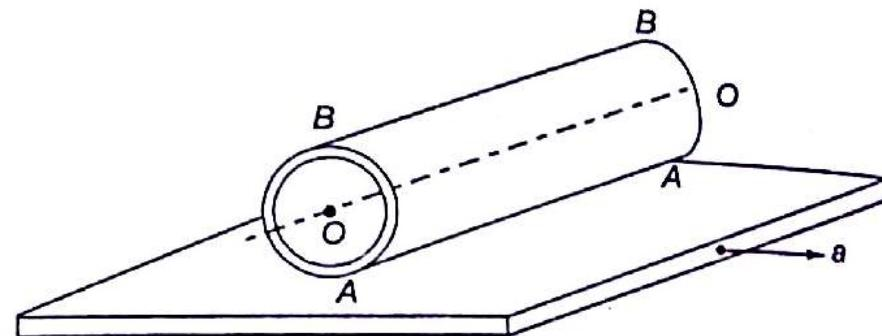

Fig. 17.13
- 17.5 A thin walled cylinder is on a horizontal platform as shown in the Fig. 17.13. The horizontal platform has acceleration of $a \text{ m/s}^2$. Determine the acceleration of the centre of the cylinder assuming rolling without slipping.